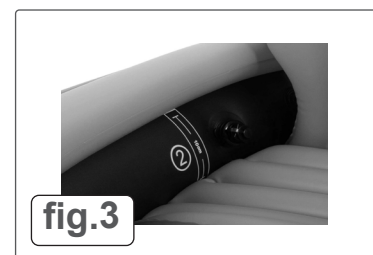

fig.3
- ✓ Check inflation pressure. Use printed mark beside the valve in the Kayak/Canoe to check the main chamber for proper inflation. When the size is correct the printed mark should measure 10cm approximately, use a plastic ruler to check. See fig.3. Continue to inflate the rest of the chambers until firm and supportive. **DO NOT** over inflate.